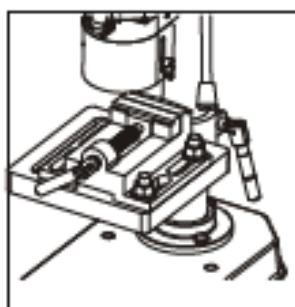

Fig 13
WARNING: The drill should never be used without the work piece being securely held in a machine vice or clamped directly to the drill table(10). The drill table(10) is designed to accept a variety of machine vice which can be fastened directly to the drill table(10). Always secure the vice to the table(10) with bolts, washers and nuts. If the drill jams into the work piece an unsecured machine vice will spin out of control causing the drill to snap and possibly injure the operator **(Fig 13)**